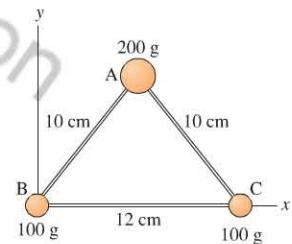

FIGURE P7.56
56. ||| The three masses shown in Figure P7.56 are connected by massless, rigid rods.